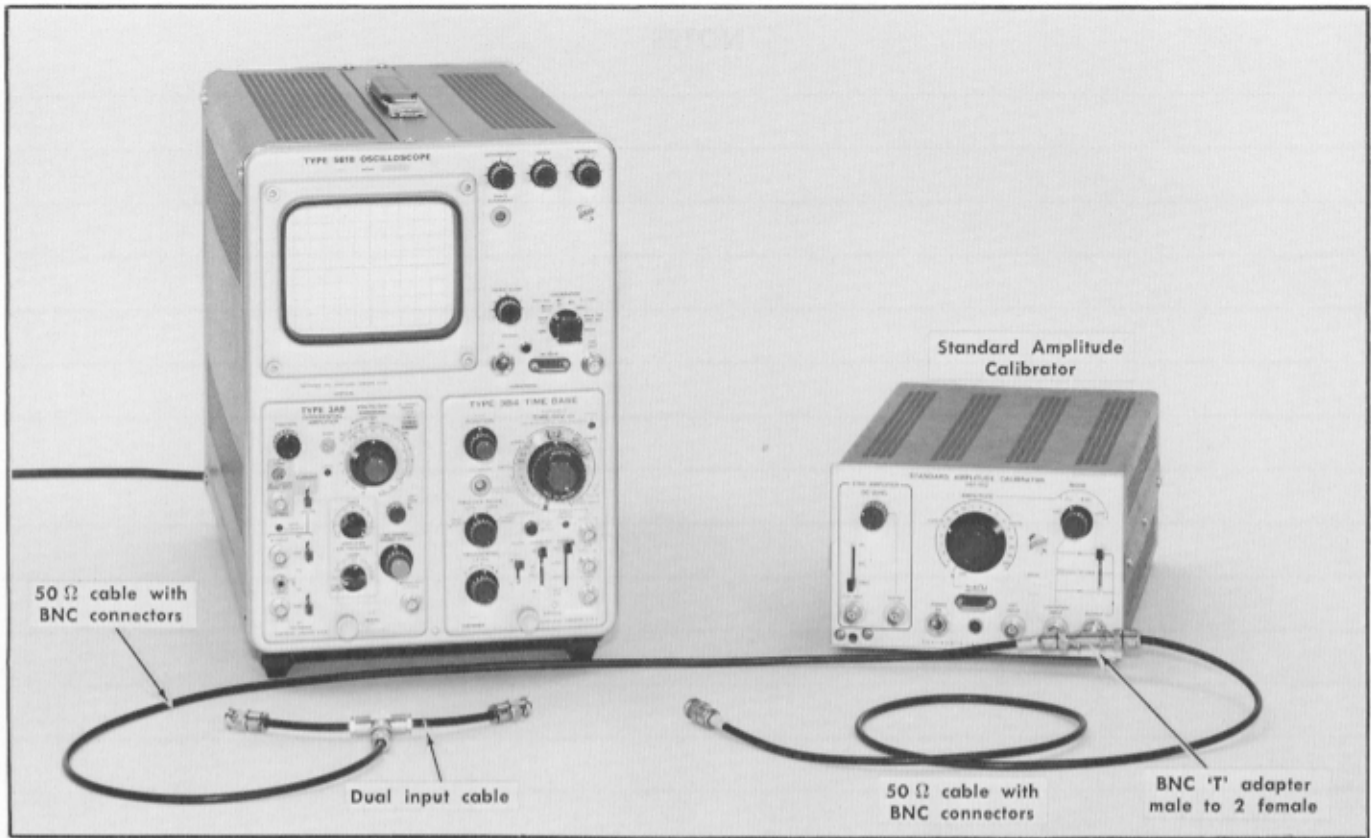

Fig. 5-18. Equipment required for step 17.
- a. Test equipment is shown in Fig. 5-18.